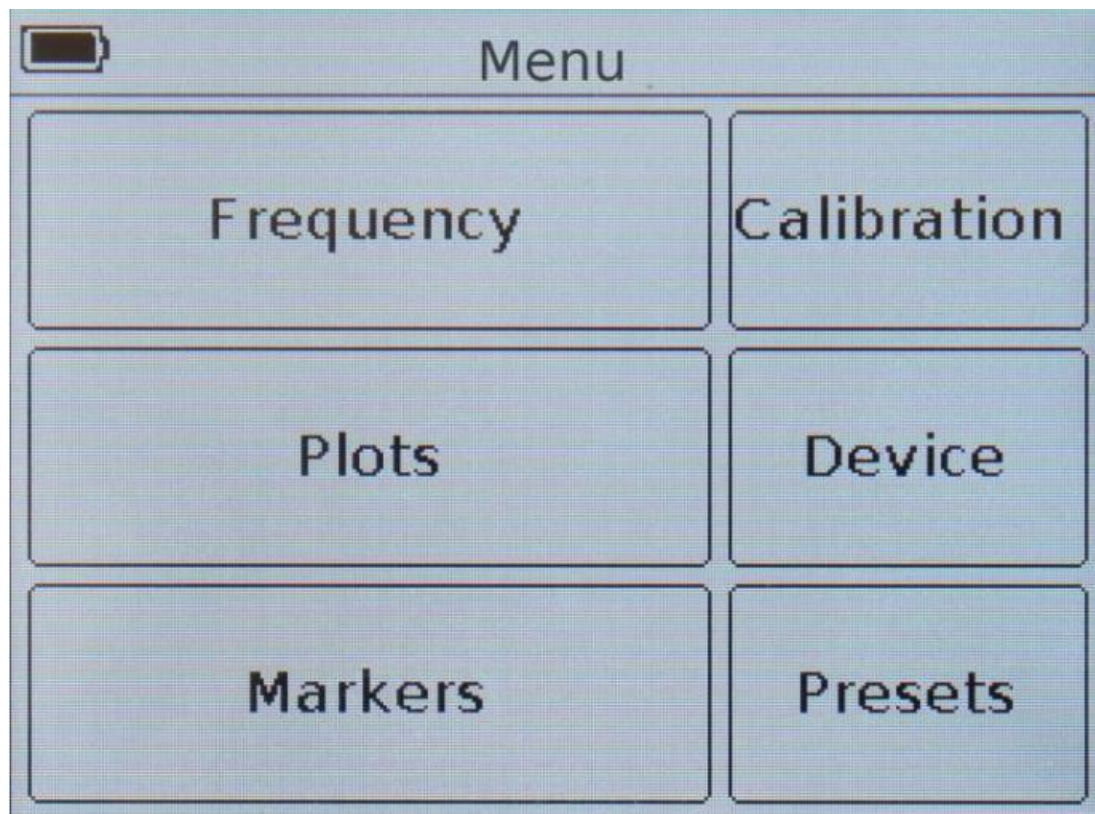
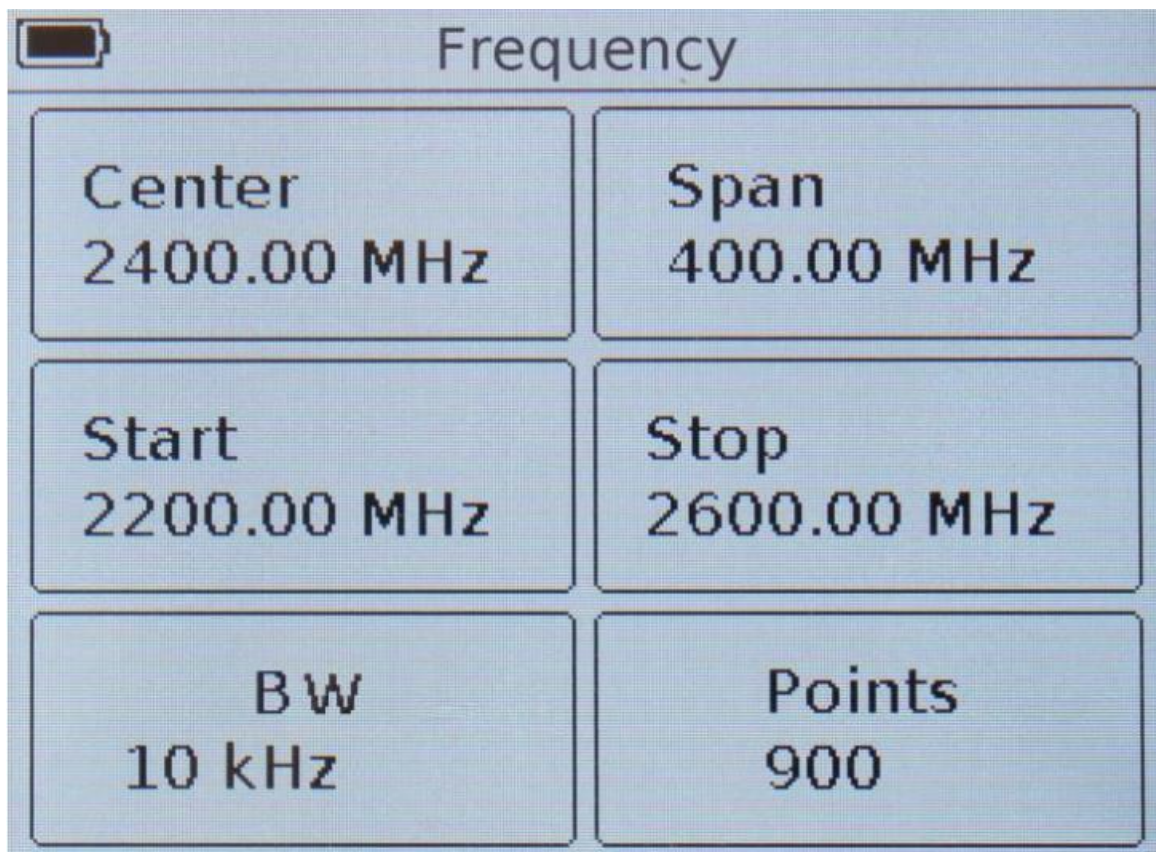
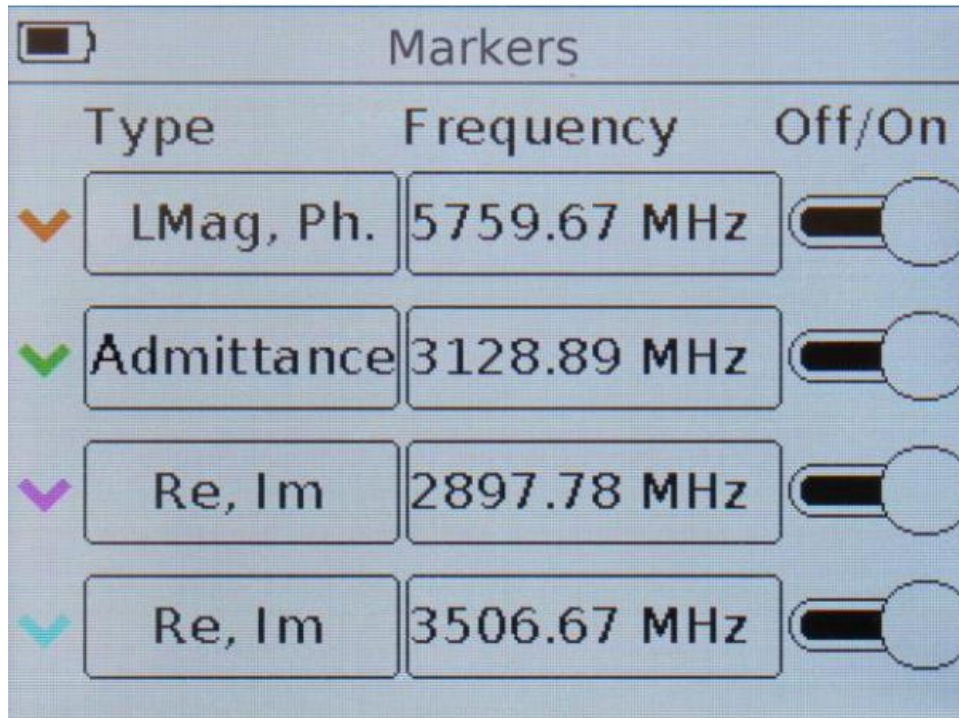
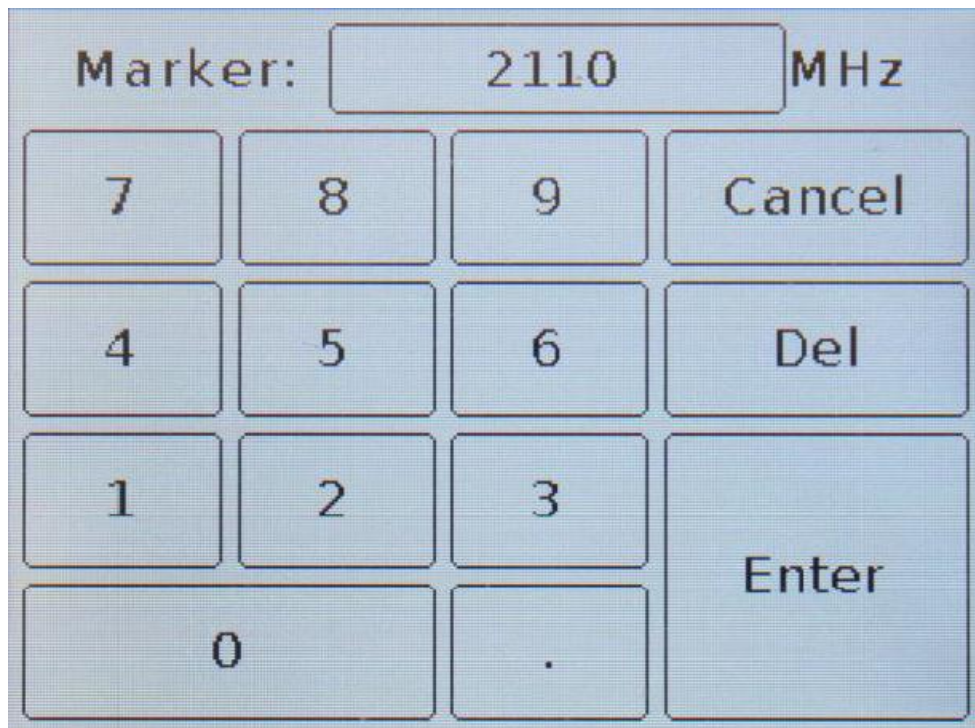

Figure 8.1 – Main menu of the device
Figure 8.2 – Menu for setting scan parameters
Figure 8.8 – Menu for setting parameters of markers displayed on plots
Figure 8.10 – Entering numerical values of the frequency to set the marker
Turn on the device in accordance with section 6 of this Manual. After switching on the device, press the “menu” button. The device will display the main menu as in Figure 8.1.
To set the frequency plan enter the main menu of the device (Figure 8.1) by pressing the “menu” button. Enter the Frequency section. A menu will appear on the screen, as in Figure 8.2.
To select the plots displayed on the device screen and adjust the parameters displayed on these plots, enter the main menu of the device (Figure 8.1) by pressing the “menu” button. Enter to the Plots section. The menu appears as in Figure 8.7.
Enter the main menu of the device (Figure 8.1) by pressing the “menu” button . Enter the Markers section. A menu will appear on the screen, as in Figure 8.8.
To set the frequency on which the marker will be set, in the menu of markers (Figure 8.8) in the Frequency column, click on the corresponding marker. A submenu for entering numerical values will appear on the screen, as in Figure 8.10.
In our example, in figure 8.10, the frequency of 2110 MHz is entered to set the marker to this frequency value on the plot.
- Pressing the block with the frequency display and then moving to the menu for entering numerical values, as in Figure 8.10.
To quickly change the displayed parameters or the frequency of one of the four markers of the Loss plot, click on the area of the selected marker above the plot and go to the submenu for entering the numerical values of this marker as in Figure 8.10